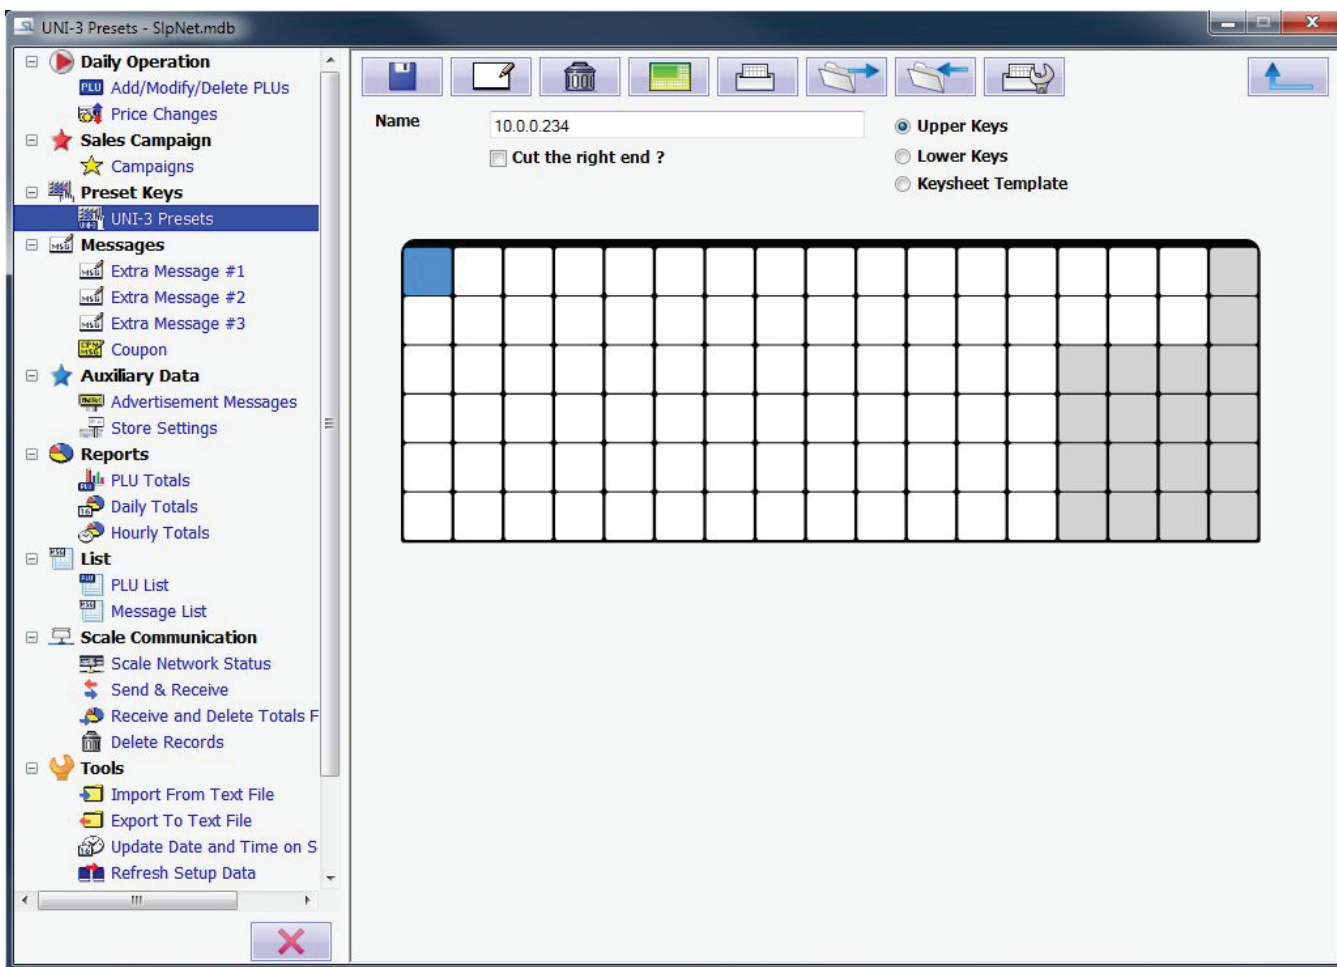

Figure 28-1
4. Select OK. The UNI-3 Presets - SlpNet.mdb dialog box will display. See Figure 28-1.